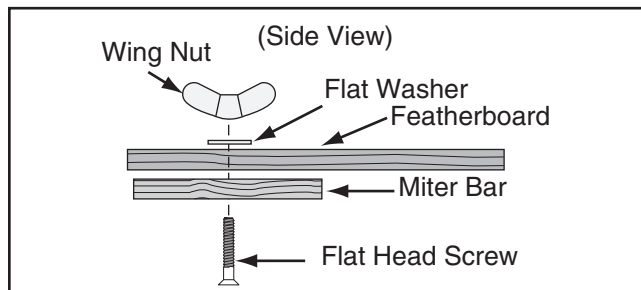

Figure 57. Assembling miter slot featherboard components.
8. Assemble miter bar and featherboard with a $\frac{1}{4}$ "-20 x 2" flat head screw, flat washer, and a wing nut or a star knob (see **Figure 57**). Congratulations! Your featherboard is complete.